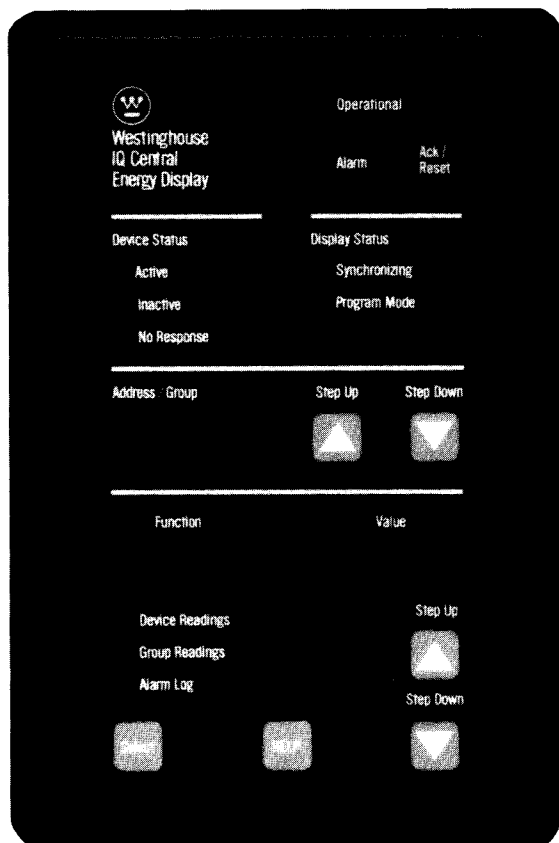

Figure 1.1 — IQ Central Energy Display
**1.0 General** — The IQ Central Energy Display (CED), Figure 1.1, is a microprocessor-based, self-contained, door-mounted device designed to monitor and display power and energy readings from up to 58 IQ Energy Sentinels and IQ Data Plus IIs (maximum 8 IQ Data Plus IIs). The two-way communication from the IQ Energy Sentinels and IQ Data Plus IIs to the IQ CED utilizes the INCOM communication protocol. This is accomplished using a single shielded twisted pair of conductors.